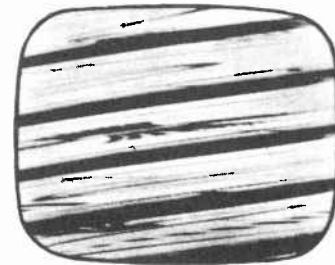

Figure 13. Picture Out of Horizontal Sync.
6. Set the **Horizontal control (A)** fully counterclockwise to break sync. If the picture does not go out of sync, momentarily interrupt the channel selector, or adjust the **Horizontal Frequency (B)** until several bars appear sloping downward to the left (see figure 13), then adjust the **Horizontal Frequency (B)** until the picture falls back into sync.